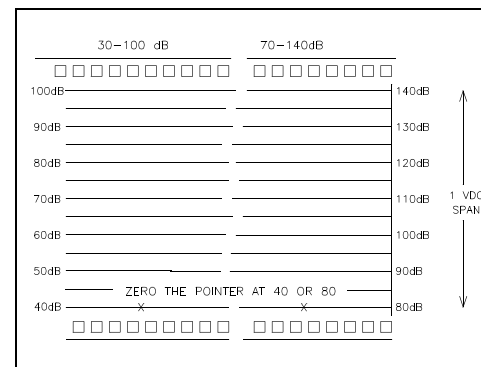

Figure 5 Chart Recording
3. Turn the calibrator ON to produce 94dB (or other level) at 1 kHz. Use the zero adjust control on your chart recorder to set the pen to the desired level corresponding to 94dB (or other level) on your chart recorder. Refer to Figure 5, Chart Recording of SPL.